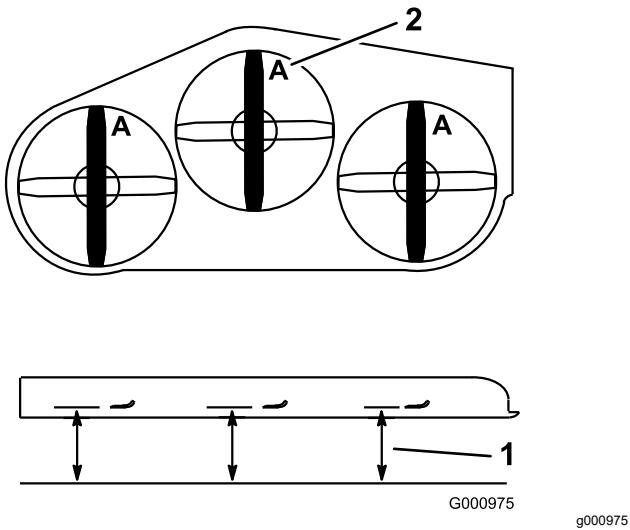

Figure 93
4. Measure at **A**, and from a level surface to the cutting edge of the blade tips (Figure 93).